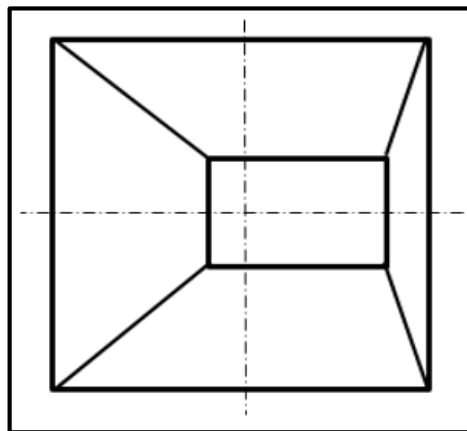

FIGURE 4.14
4.14 Identity the type of hopper in FIGURE 4.14 shown below.